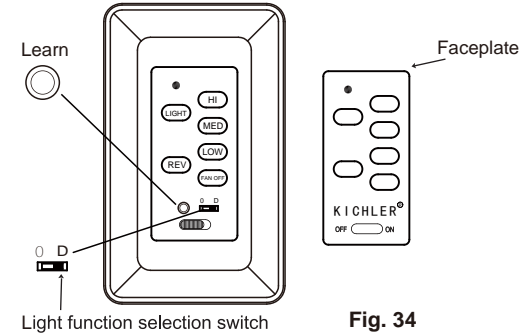

Fig. 34
ACTIVATING THE LEARNING PROCESS(Fig. 34)
1. Use a small flat screw driver and gently pry the faceplate apart from the top of wall transmitter. (Fig.34)
2. After installation is complete, AC power is turned on and OFF ON SWITCH is at ON position within 30 seconds,press and hold the LEARN button for 3 seconds. Fan will turn on at medium speed and light (if installed) will turn on. This confirms that the SMART SYNC setting is active and ok. (Fig. 34)
LIGHT FUNCTION SELECT SWITCH(Fig.34)